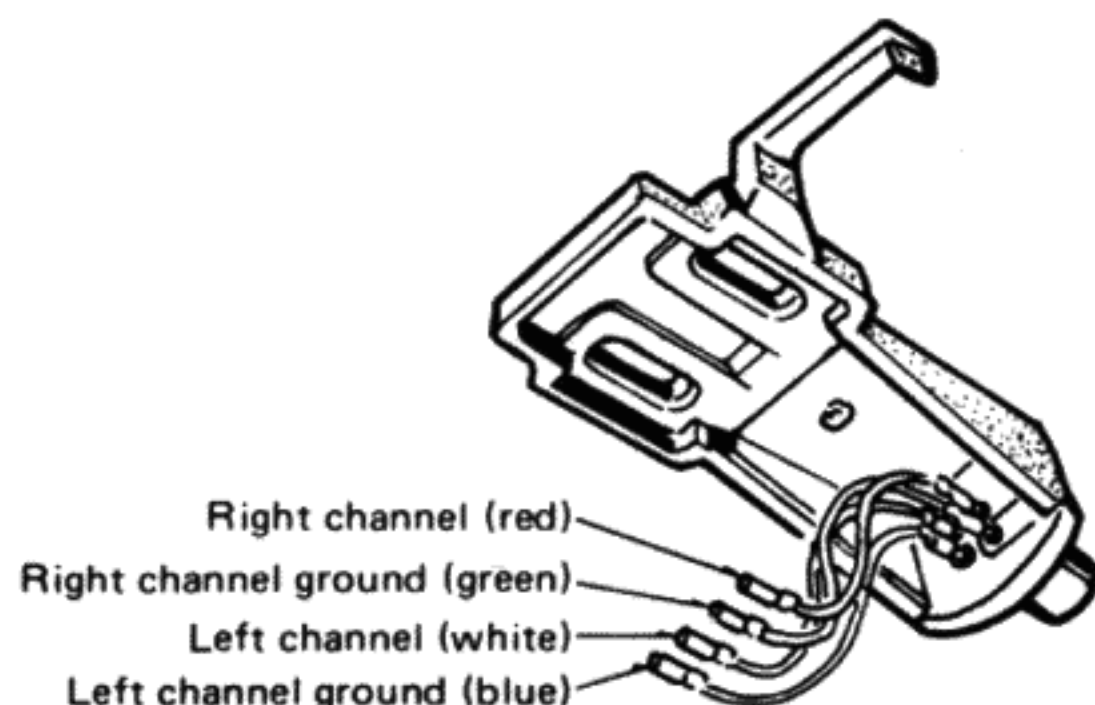

Fig. 1
2. The terminals on the accessory headshell are aligned as shown in Fig. 1. Check the location and polarity of each of the cartridge's terminal pins and then connect the lead wires, taking care not to get the polarities mixed up.